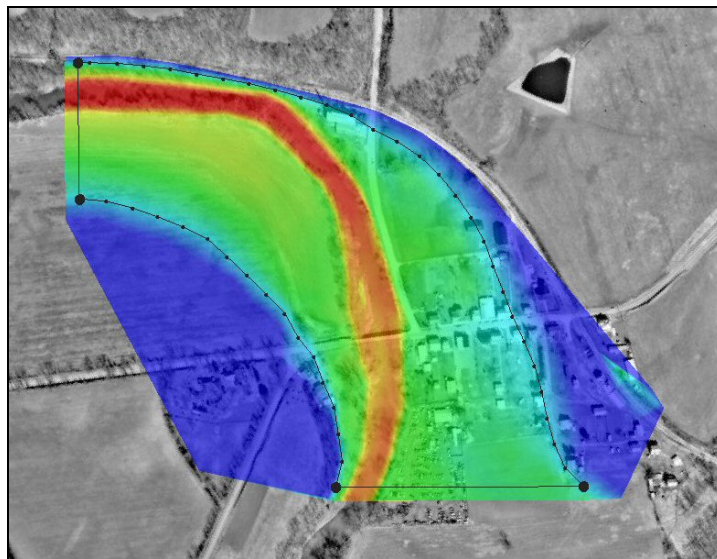

Figure 3 Model domain of Double Pipe Creek
5. With the *Create Feature Arc*  tool create the upstream and downstream boundaries of the model domain as shown in **Figure 3**. You may want to zoom in and turn off the scatter set. Delete any dangling arcs that result when creating these two boundaries. Note the arcs are not to be placed on the ends of the existing arcs.